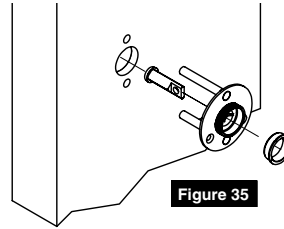

Figure 35
1. Assemble and Install outside dummy adapter plate. (Figure 35)